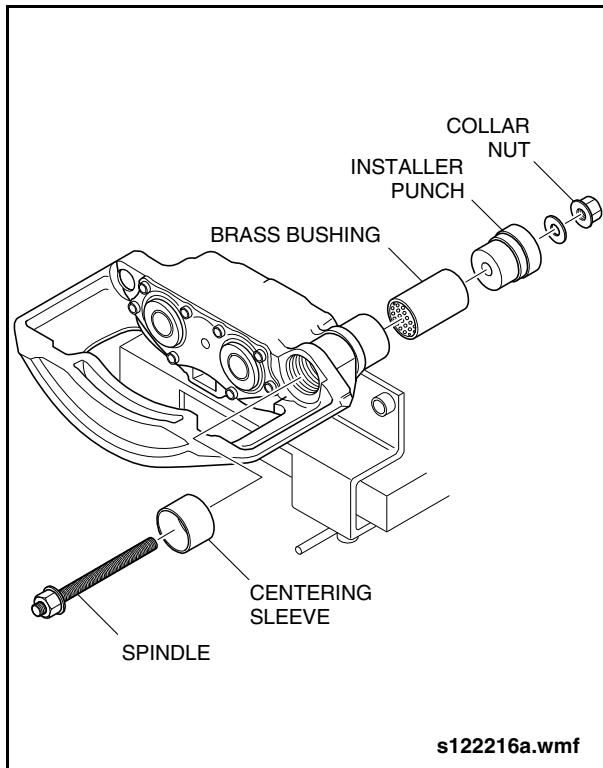

Fig. 2-128: Brass Bushing Installation
- a. Assemble and install the centering sleeve, brass bushing, installer punch, spindle, and collar nut (Items 76, 72, 70, & 71 from special tools list). Ensure that the open side of the centering sleeve is facing away from the caliper. See "Fig. 2-128: Brass Bushing Installation" on page 114.